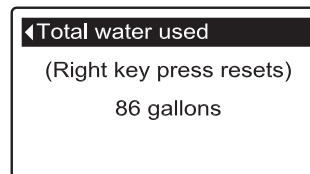

FIG. 55
6. The **Total water used** screen (See Figure 55) shows the volume of water used since it was last reset (it works like the trip odometer in a car). To reset the value to 0, press the RIGHT (►) button while this screen is displayed.